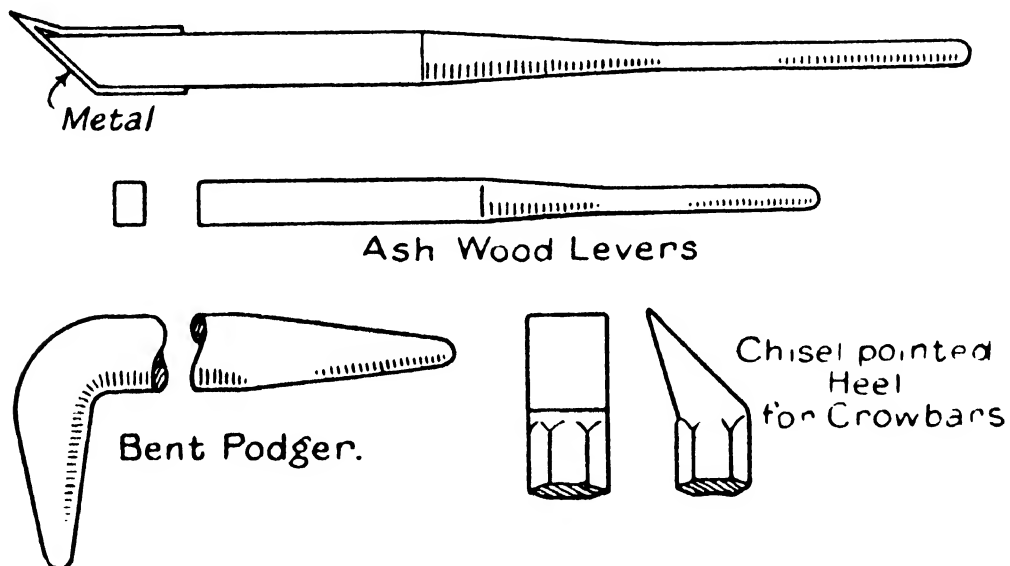

FIG. 35.—Bars and Levers.
for instance, is a mere detail which, more often than not, is neglected by those who order them to be made. The making of these is left entirely to the tool-smith, and he fashions them according to his fancy, which is no doubt the customary method as near as he can judge. The chisel-pointed end, which is heeled as shown in Fig. 35, is all that is essential for the erection of plant. Bars that have a spike or a diamond point at the other end are not preferred, in fact the point is of no use unless it is quite sharp, and then it becomes a source of danger in the hands of the users.
The chisel-point should be somewhat short and not too pronounced ; the sketch in Fig. 35 gives an idea of the practical proportions.
**Podger Bars.**—For structural work the podger bar is preferred to others. A blunt pointed end can be forged opposite to the chisel-pointed one, or bars of the design shown in Fig. 35 can be employed to advantage; the sketch shows the bar pointed at both ends, and one end turned at right angles to the other. This tool is most useful for handling and turning members that are holed. The bent end is suitable for lifting one side of a flat plate, and for turning angles and R.S. joists over. Made of  $\frac{3}{4}$  in. diameter steel and about 20 in. long, it is a practical tool, low in cost and finds many uses.
**Wood Levers.**—There are two levers made of wood that are worthy of mention. These are also shown in Fig. 35, and although they are primarily intended for shunting purposes, the erector finds them very useful, especially at collieries, where they are mostly to be seen. The first one shown is about 6 ft. in length, made of straight grained ash, and is shod with a metal toe and heel in one piece. The tool is sometimes called the "toothpick."